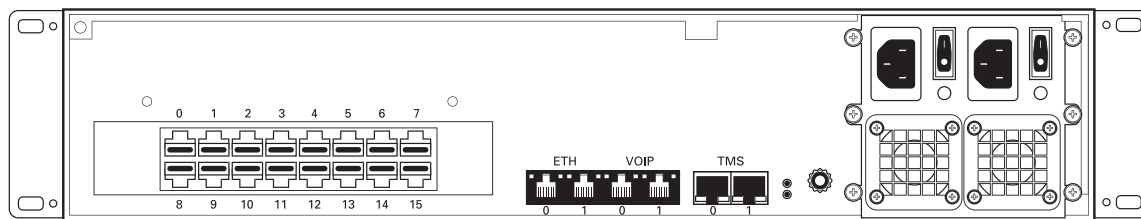

Figure 2.4
1. Start with port 0 located at the top and leftmost position. Connect one cable between this port and the T1/E1 line. See figure 2.4 on page 20.